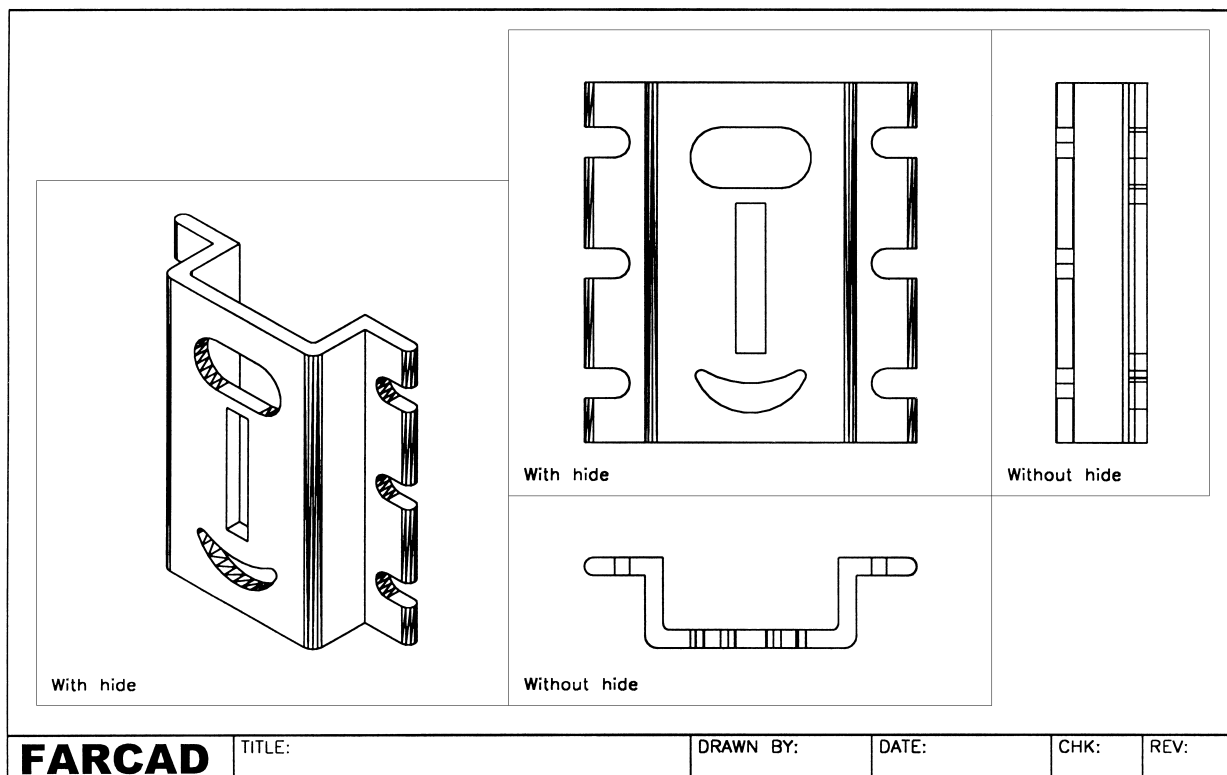

Figure 32.3 Complete solid model composite of backing plate.
- 15 The model is now complete – fig(f) and the four viewport layout should be displayed as Fig. 32.3